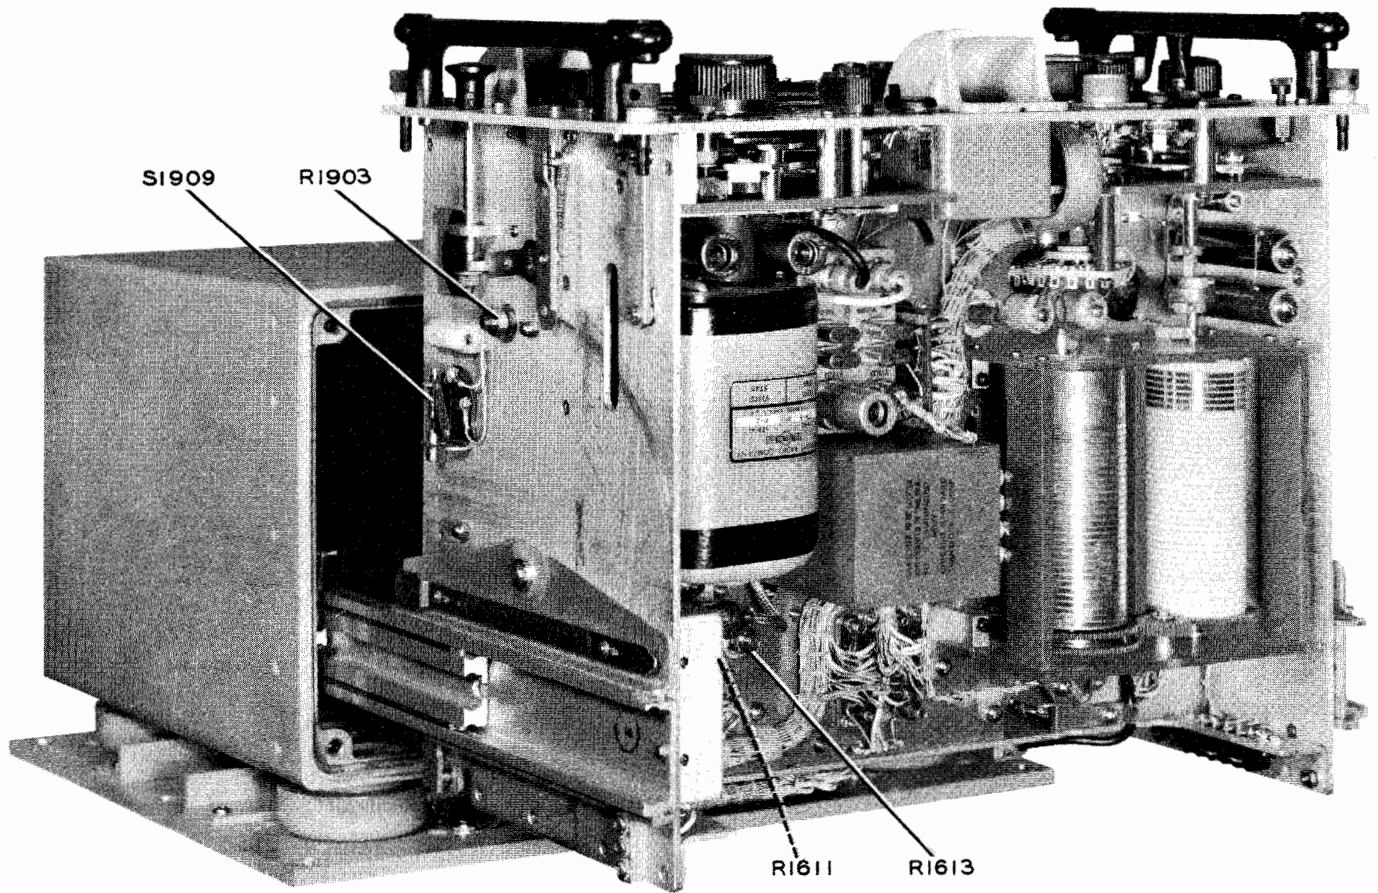

Figure 5-3. Radio Transmitter T-474(XN-1)/URC-8, Bottom Deck Alignment and Adjustment Points
- (1) Roll the main frame out of the case to the service position. Figures 5-3 and 5-4 show the adjustable components.
- (2) Disconnect the antenna from the rear of the case and connect the 50-ohm dummy load into jack J1902 provided on the rear of the main frame.
- (3) Pull the plunger of the interlock S1909, located on the left side of the main frame, toward the rear of the main frame. This bypasses the high voltage interlock.